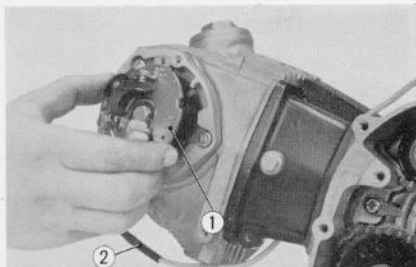

Fig. 3.14 Removing the contact breaker assembly
5. Remove the contact breaker assembly ① and disconnect the lead wire ②. (Fig. 3.14)